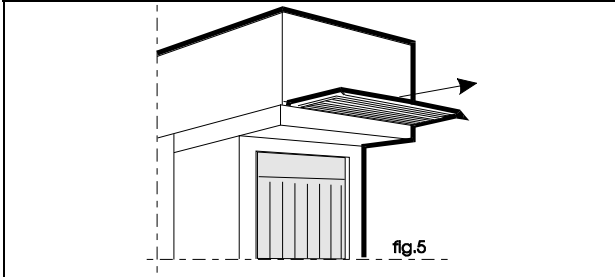

fig.5 – Steam condenser
- 9 - For machines with steam condensation only, remove the steam aspiration filter (fig.5) and clean it.